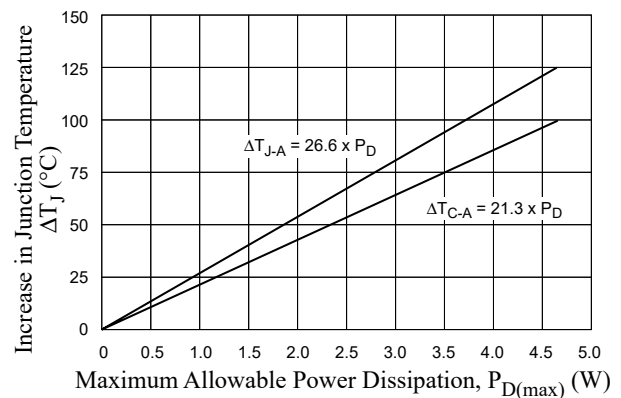

Figure 28. Temperature increase
Based on the PD calculated using the above formula, the expected increase in operating junction temperature, ΔT_J , of the IC can be estimated using figure 28. This result must be added to the worst case ambient temperature when operating, $T_A(max)$. Based on the calculation, there is no problem unless $T_A(max)$ plus ΔT_J exceeds 150°C.
Second, estimate the loss (P) and junction temperature (T_j) from the temperature rise with reference to figure 28, temperature increase graph. At this point, the device temperature rise (ΔT_{c-a}) and the junction temperature rise (T_j) are almost equivalent under the following formula: